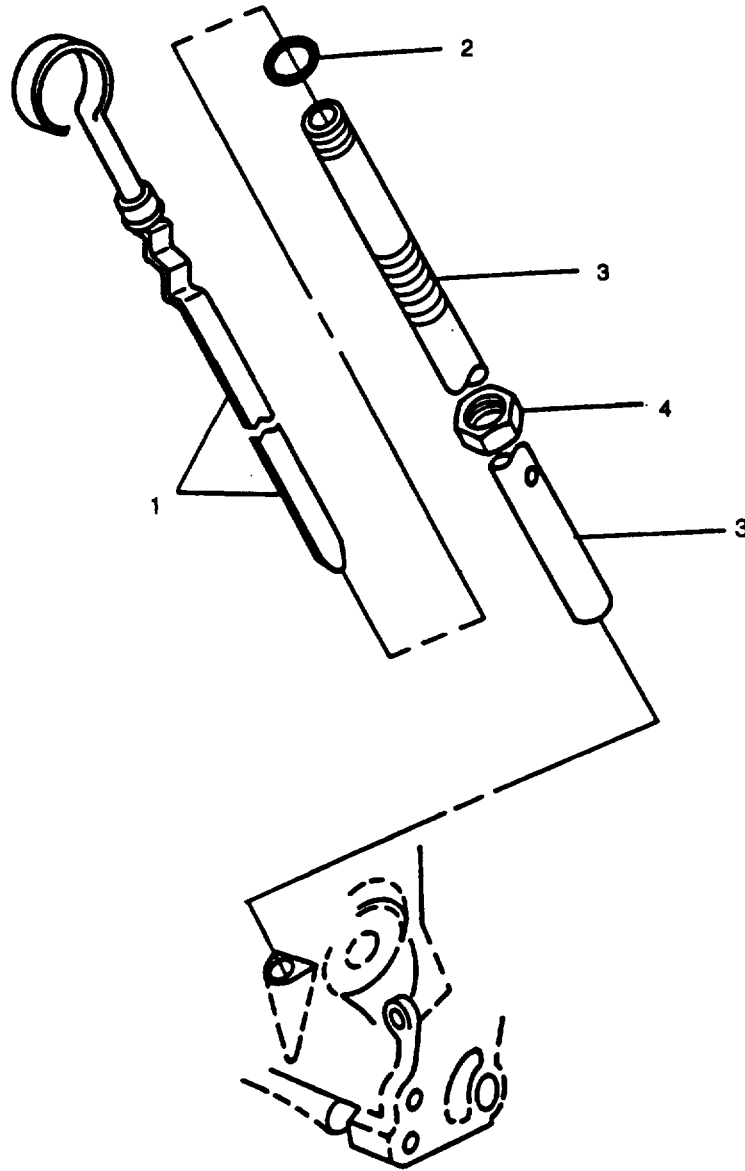

FIGURE 3-33. Dipstick
- a. Remove dipstick (1, FIGURE 3-33) from tube (3). Remove and discard preformed packing (2).